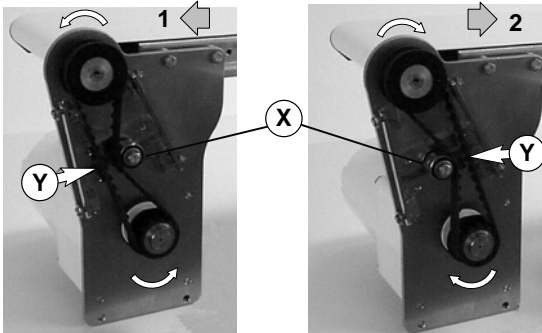

Figure 7
- Depending on conveyor belt travel (direction 1 or 2), locate timing belt tensioner (X of Figure 7) as shown. Tension timing belt to obtain 3 mm deflection for 456 grams of force at timing belt mid-point (Y). Tighten tensioner screw to 10.4 Nm.